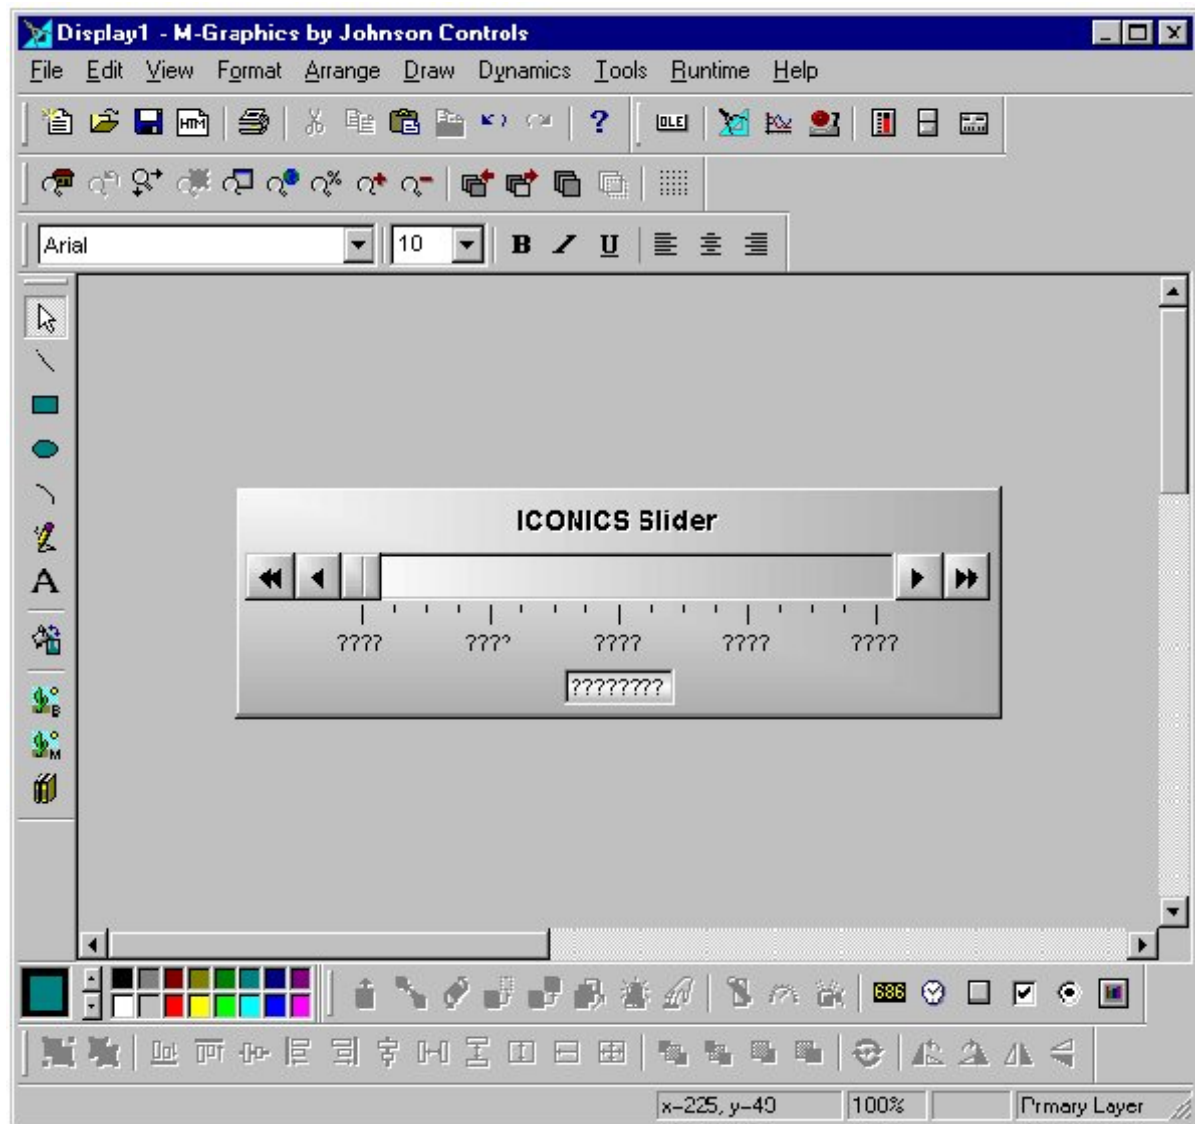

Figure 17-3: GWXSlider ActiveX in M-Graphics Display
3. Click OK. A GWXSlider ActiveX control is added to the display (Figure 17-3).